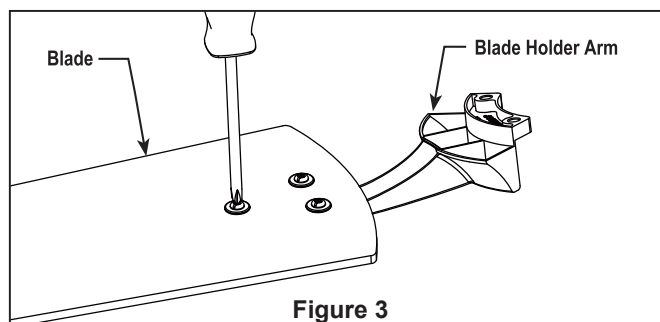

Figure 3
- ☐ 3. Position the blade over the blade holder with threaded posts showing. Make sure the bottom edge of the blade is fully seated against the blade arm. With a phillips screwdriver, tighten 3/16"-24 mm washer head screws and fiber washers to secure the blade to the blade arm. (Figure 3)